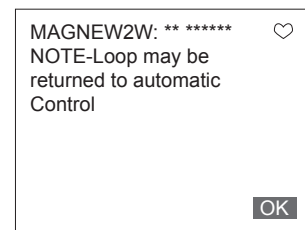

Fig. 7-66.
5. A numerical value input display (Fig. 7-66.) will then appear.